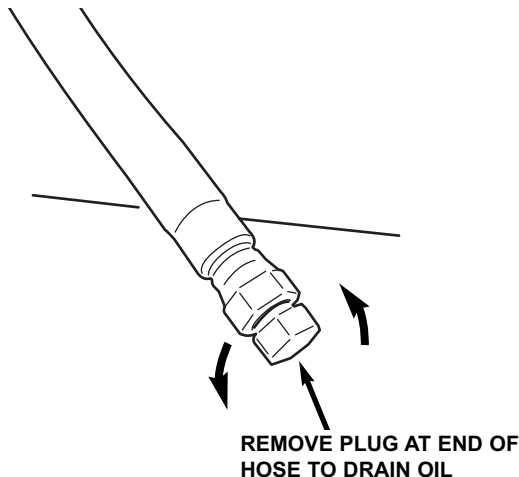

FIGURE 4.1
2. Remove the plug at the end of the oil drain hose and allow the oil to drain. See Figure 4.1.
3. After all the oil has drained, replace the plug, tightening securely. Wipe up any oil that may have spilled. Dispose of drained oil properly. See Figure 4.1.